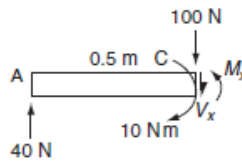

Figure 26 Free-body diagram.
Therefore, from $\uparrow \sum M_B = 0 \Rightarrow -R_A + (100)(0.5) - 10 = 0 \Rightarrow R_A = 40 \text{ N}$. Now, taking a section just right to point C gives us the following free-body diagram in Figure 26: